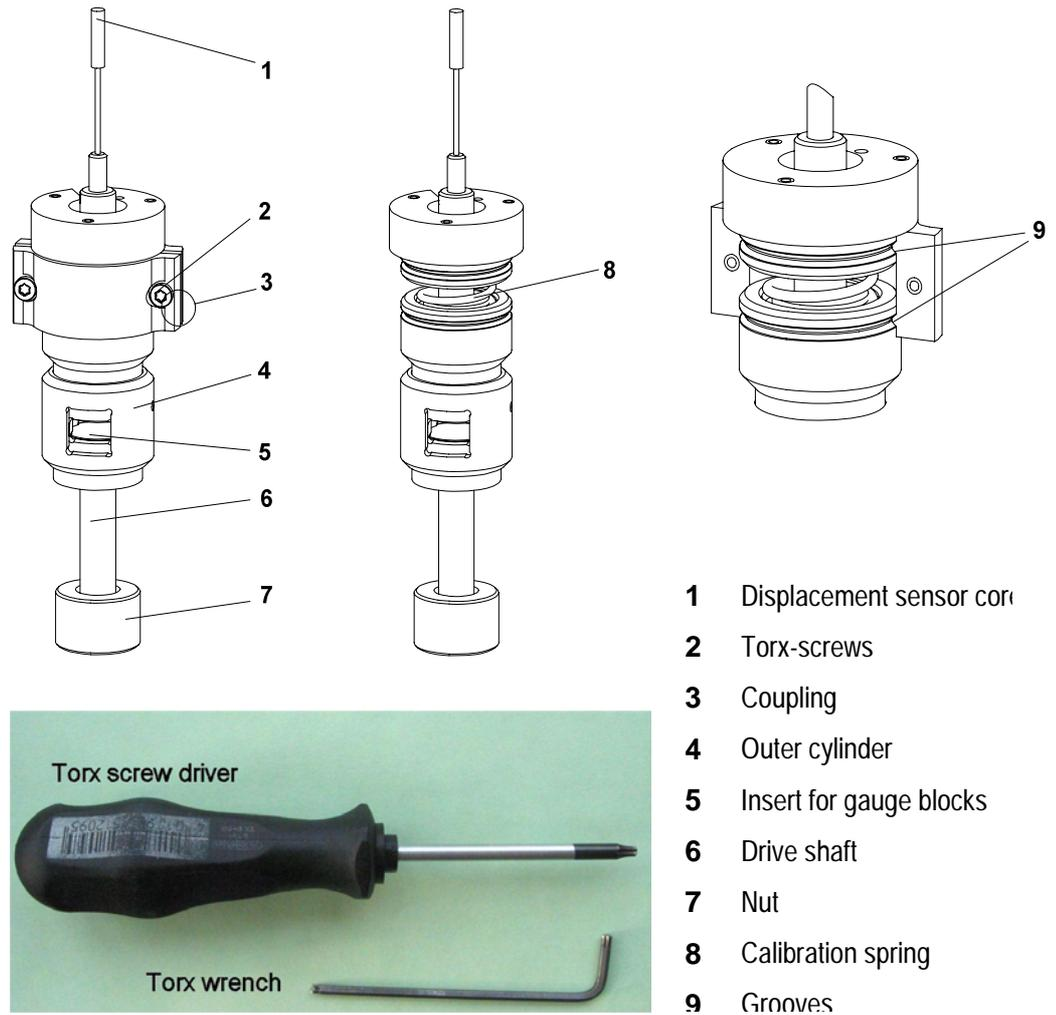

Fig. 8-1. Adjustment assembly and its parts
Fig. 8-1 shows the design of the adjustment assembly.
**Start:** Adjustment assembly is ready, coupling 3 in Fig. 8-1 is mounted